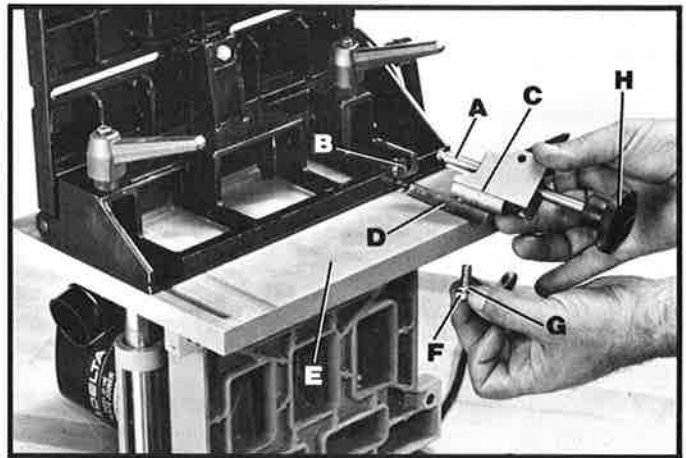

Fig. 6
1. Make sure top of screw (A) Fig. 6, is engaged with bracket (B) and insert bracket assembly (C) in channel (D). Fasten bracket assembly (C) to fence (E) using screw (F) and washer (G). Do not tighten screw (F). Turn knob (H) until bracket (C) is down as far as possible in channel (D) and tighten screw (F).